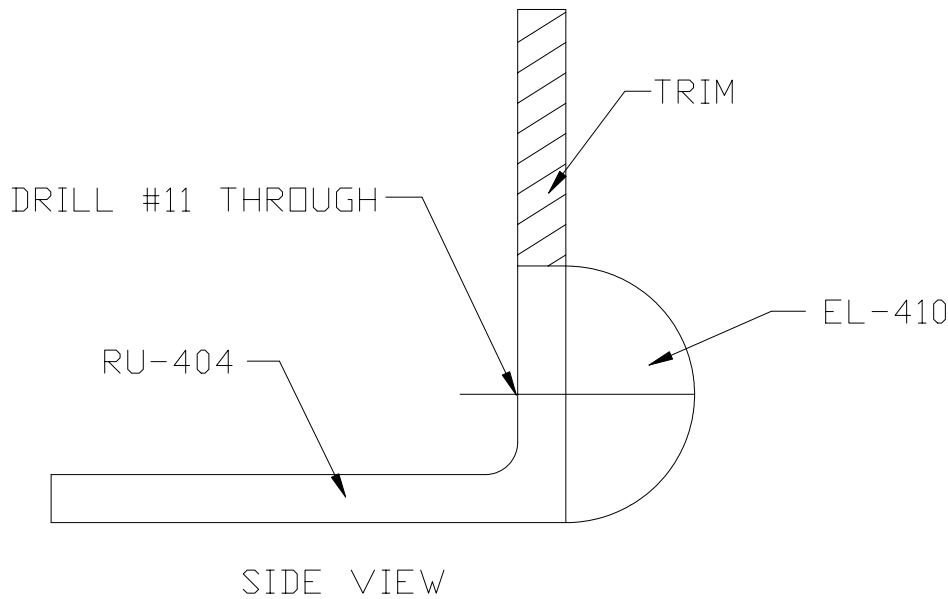

Figure 8
- 34) Drill and trim four RU-404 Stop Attach angles. Use the Stop Blocks as drill and trim guides. Figure 8.